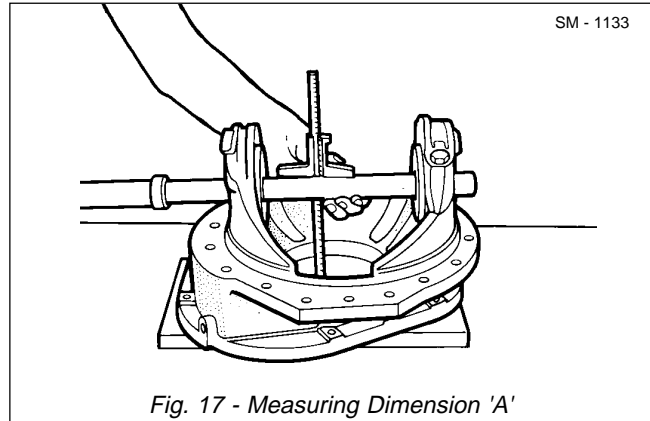

Fig. 17 - Measuring Dimension 'A'
1. Align the index marks on bearing caps (62) and differential housing (73) and fasten with washers (64) and bolts (63). Install the special shims and measuring shaft into the differential bearing bores. Measure the distance from the middle of the differential bearing flange face. Refer to Fig. 17. This will be dimension 'A'. e.g. 164.2 mm (6.40 in).